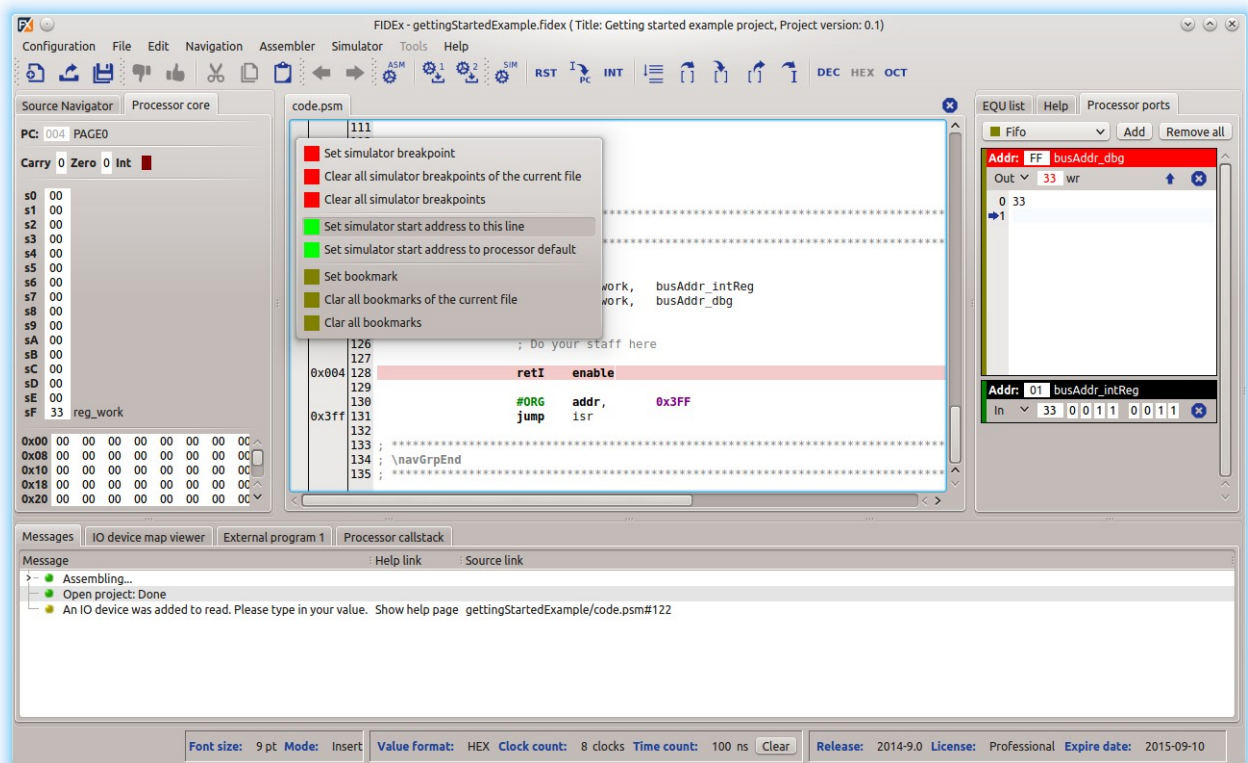

Figure 8.2-1: Context menu of the editors left margin
- Define a new start address using the right mouse button context menu of the text editors left margin (Figure 8.2-1).
Using the context menu of the editors left margin as shown in Figure 8.2-1. You can individually set breakpoints. If a breakpoint is not placed into a line containing an instruction, the breakpoint will be applied to the next following instruction.
In Figure 8.2-1 you can see